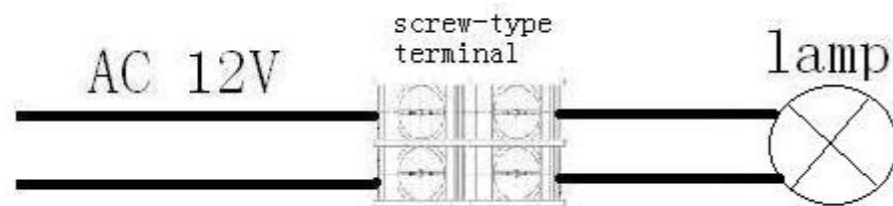

Figure 0.
c) Terminal blocks must meet the IEC60988-2-1 standard having the rated connecting capacity of 1.5mm² use of screw-type terminal at least 25A rated current, mounted on junction boxes inside. See Figure 0